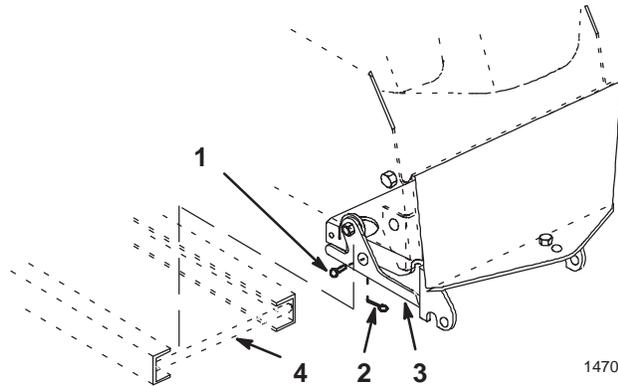

Figure 14
- Remove hairpin cotters and clevis pins from latch levers (Fig. 14). Open latch levers and lower the frame (Fig. 14).